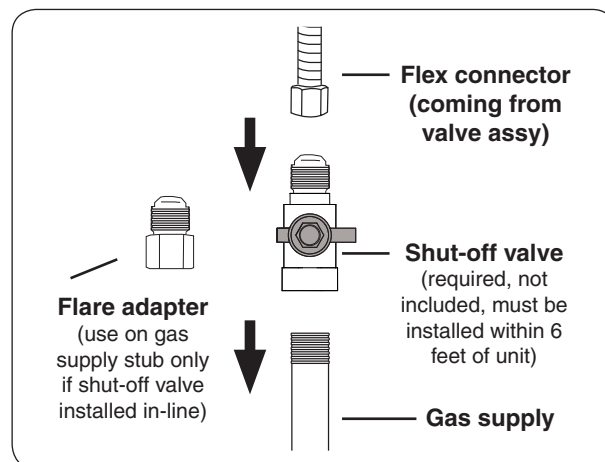

Fig. 27-1 Connecting to a gas line
- Connect the flex connector to the shut-off valve (see Fig. 27-1). Tighten securely.
- Install the supplied flare adapter to the gas supply using a pipe joint compound resistant to all gasses (see Fig. 27-1). Tighten securely.
- Connect the flex connector to the flare adapter (see Fig. 27-1). Tighten securely.